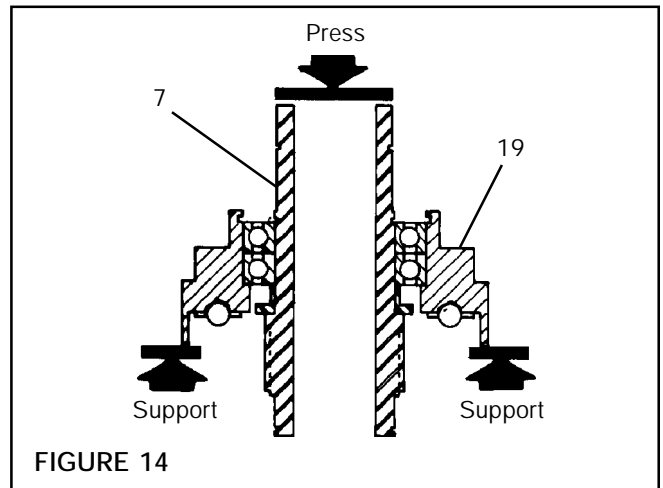

FIGURE 14
2. Supporting Drive Flange (Item 19) press Hub (Item 7) out of Drive Flange (See Fig. 14).